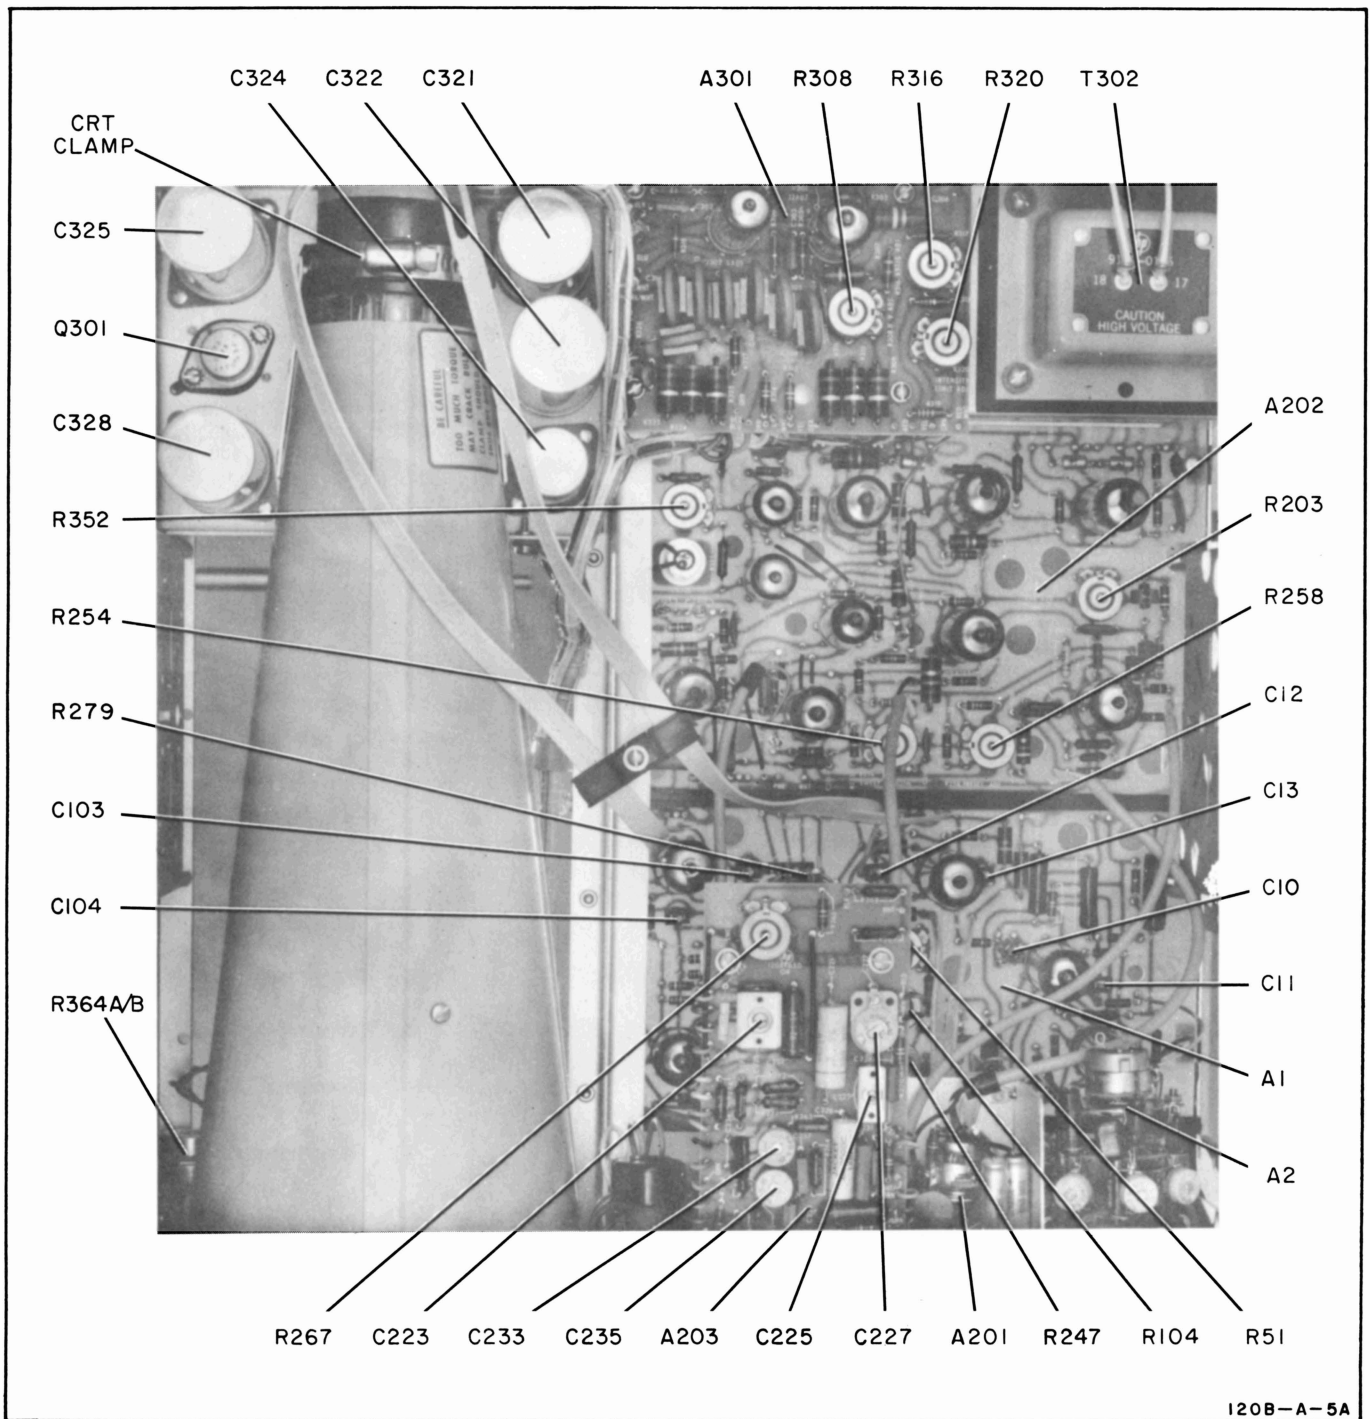

Figure 5-1. Top View, Location of Parts and Adjustments
to isolate a malfunction to a particular functional section of the Model 120B; and sectional troubleshooting, which is used to locate the faulty detail part. Figures 5-1 through 5-4 show the location of parts whose designations are not directly imprinted on a circuit board or chassis.
- b. Loosen clamp screw (figure 5-1) on crt base; do not remove screw or clamp.
5-29. **-150-VOLT ADJUSTMENT.** Using a dc VTVM, adjust potentiometer R352 (figure 5-1) for -150 volts dc.
b. Adjust potentiometer R308 (figure 5-1) for a voltmeter reading of -2500 volts.